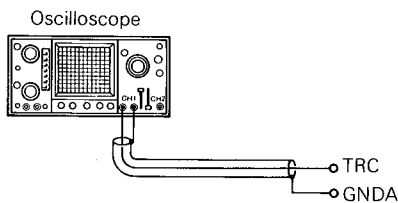

Fig. 23
- (1) Switch the power switch on and slide the disc tray out by pressing the open/close button.
- (2) Connect the oscilloscope (DC input) to TRC and GNDA. (fig. 23)
- (3) Adjust VR105 for zero volts DC  $\pm$  20mV.